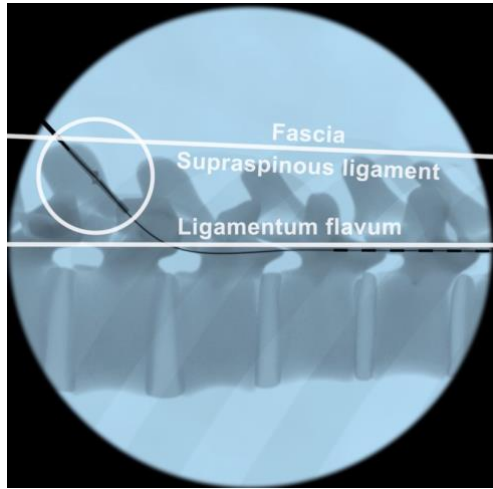

Figure 8
9. Remove the locking clip and pull the Injectroducer out slowly, verify final placement of SandShark Anchor with another lateral X-ray. (Figure 8)